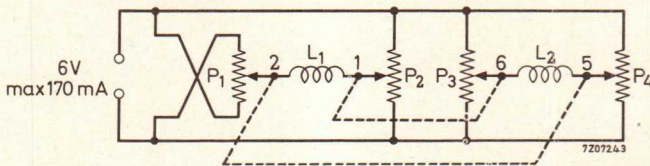

Fig. 1
- b. With the tube fully scanned in the vertical direction, the image has to be shifted so that the graticule is fully covered. With the circuit according to Fig. 1 this is done by means of the ganged potentiometers P₁ and P₄.